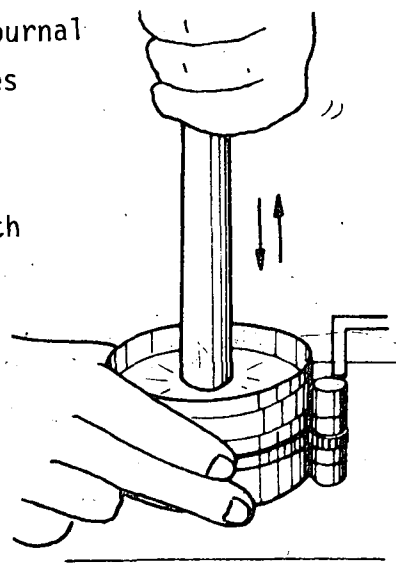

Fig. 3
- Introduce the connecting rod with the piston in the cylinder and tap the piston head with the hammer handle until the connecting rod rests on the crankshaft journal (fig. 3).